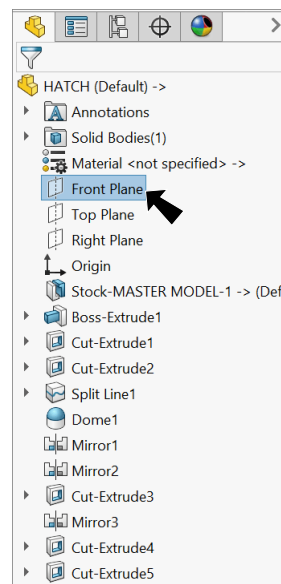

Fig. 75
Step 1. Click **Front Plane**  in Feature Manager to display Plane in graphics area, **Fig. 75**.